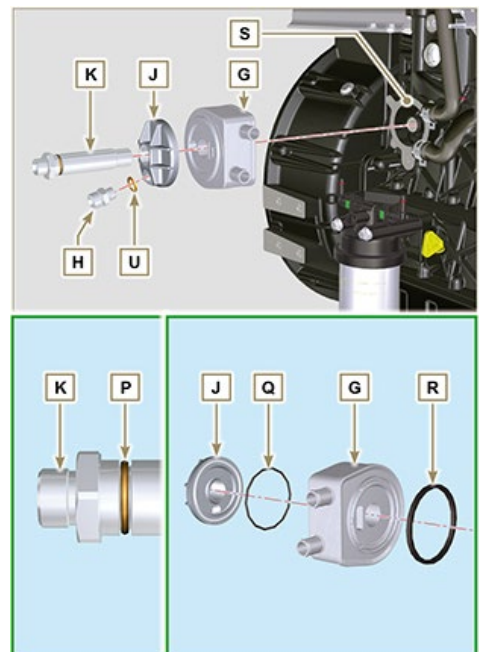

Fig 11.39
- 2701 on thread) as positioned in **Fig. 11.39**.